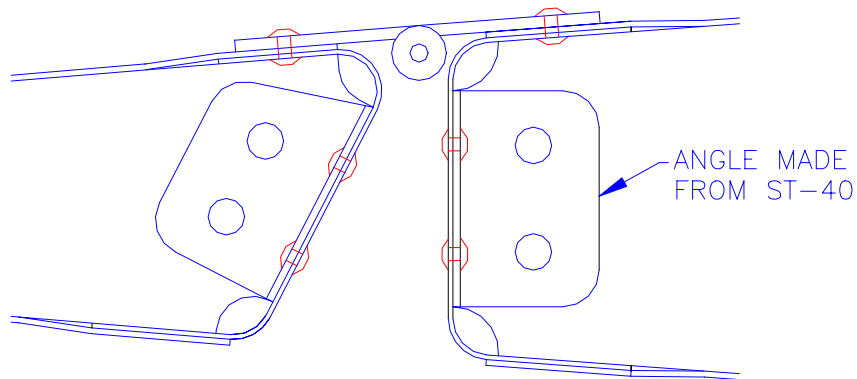

Figure 6.2.4
4) Cut the two trim spars (EL-33 and EL-34) to length and position in place. Small angles can be made up from ST-40 material to attach spars to ribs as in figure 6.2.4. (See stab section)